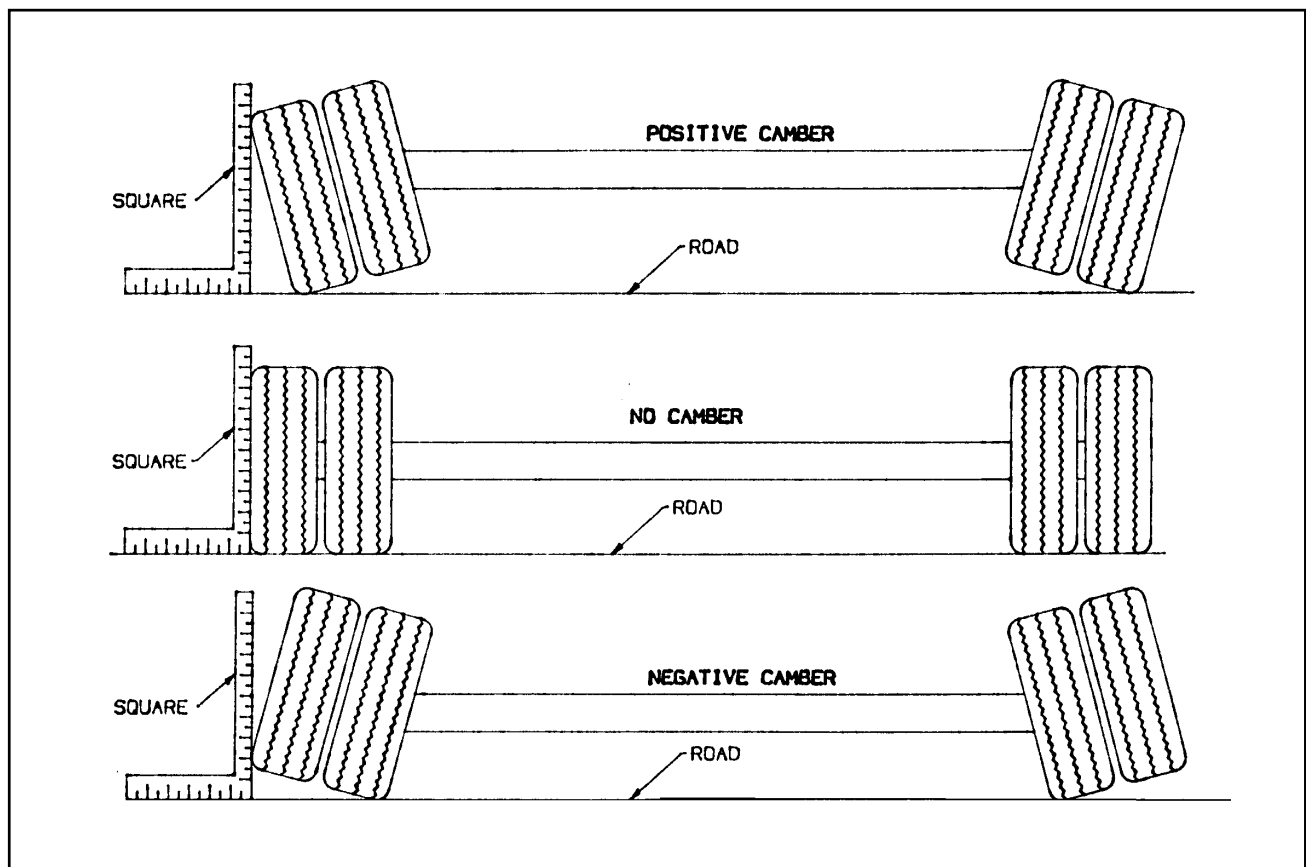

Figure 4-10 Examples of Camber
- d. Follow the same procedures as in **Section 4-7.1 b. and c.**, except place the axle gauge above and below the axle. If gauge point gap is found, the axle has positive or negative camber. The trailer axle has no camber from the factory. If it is found to have positive or negative camber, axle replacement is necessary (See Figure 4-10 for examples of camber).